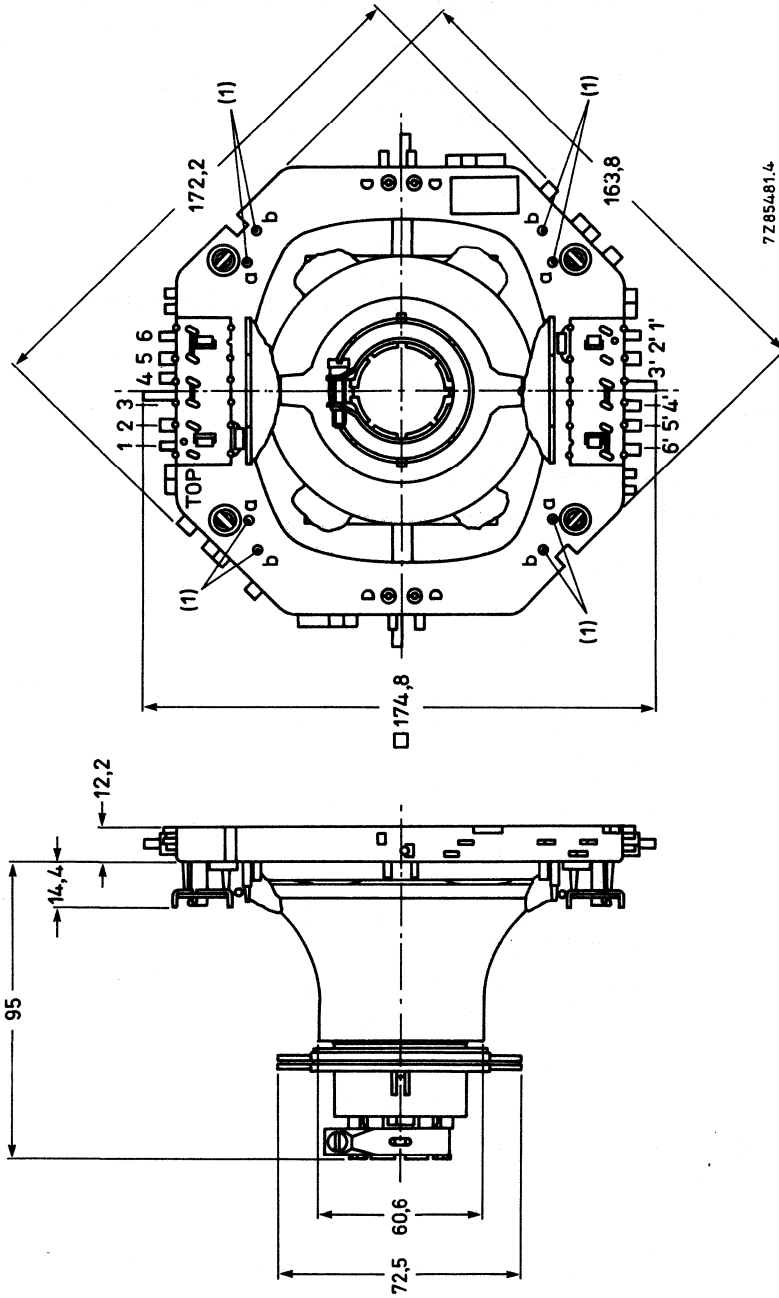
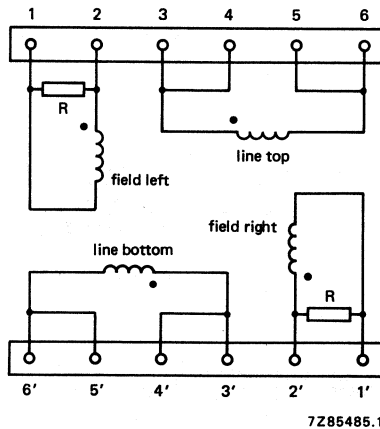

Fig. 1 Deflection unit AT1039/39.
Fig. 2 Diagram of line and field coils; R = 270 Ω . The beginning of the windings is indicated with ●.
If a further improvement of raster geometry is required use can be made of correction magnets*, which must be fitted to mounting posts (1). The unit has solder pins for connection. The pin numbering in Fig. 1 corresponds to that in Fig. 2.